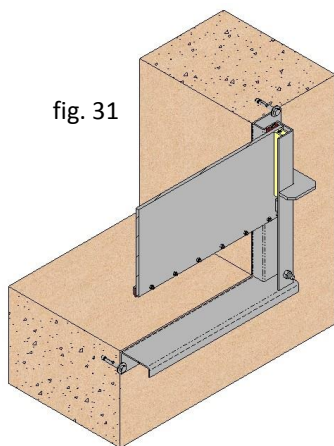
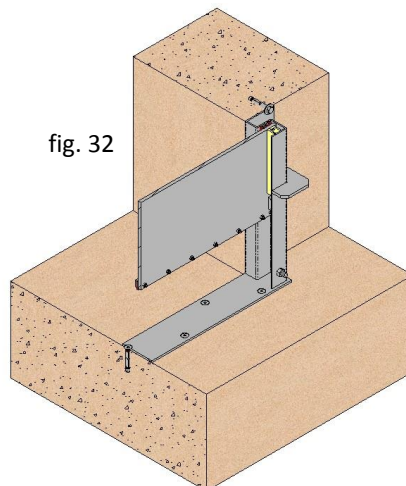
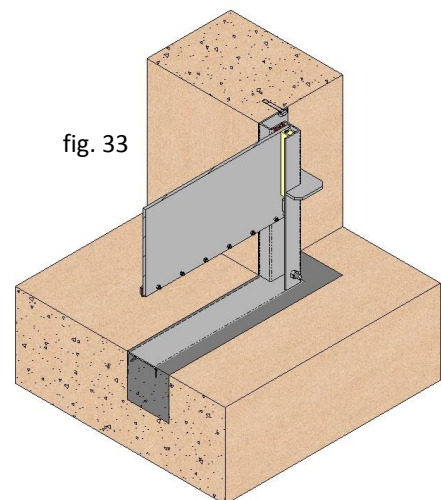

fig. 31
fig. 32
fig. 33
As described above, the most common system to mount these wall penstocks is by supporting them on the wall and securing with chemical or expansion anchors (fig. 31), although, as can be seen in fig. 32 and fig. 33, there are other assembly options.
This procedure can be used both for flat base (fig. 32) and standard penstocks (fig. 31).
-In order to mount the penstock with the base embedded in the concrete (fig. 33), the civil work must have housing in the ground with the dimensions previously defined in fig. 28 and fig. 29. Once the penstock is in position in the housing, align it with regards to the wall orifice, ensuring that the base of the penstock is level with the civil work, thus ensuring that there is no protrusion in the base and guaranteeing entirely continuous passage. Make the boreholes necessary for the upper and side profiles, using the holes of the body of the penstock as a guide. Remove the penstock and apply sealing paste such as SIKAFLEX-11FC or similar where the penstock is to be located on the wall, in order to prevent leakages between the body and the wall. Return the penstock to its location and screw down with chemical or expansion anchors using the usual procedure, namely with the help of a flat rule, screwing crosswise and without excessive force.